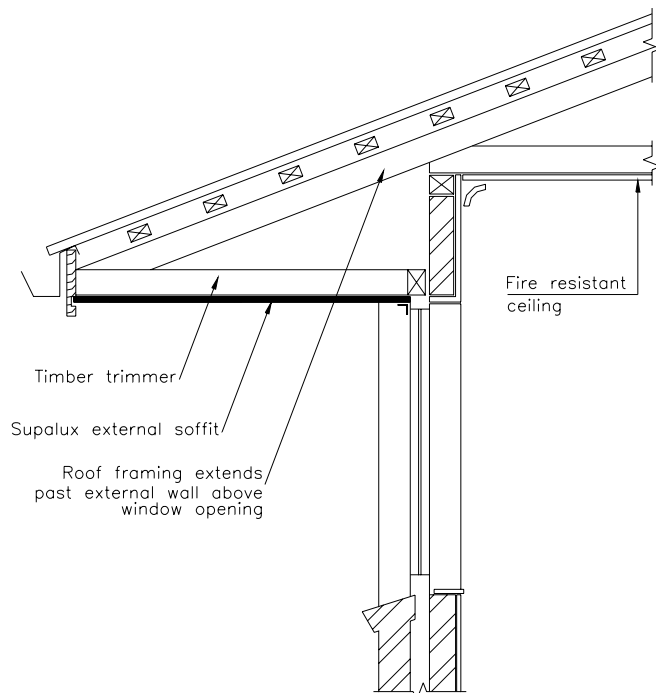

Fig 1 Fire Rated Soffit Detail
- The timber roof framing extends past the external wall of the building to provide a roof overhang. (Refer Fig. 1)